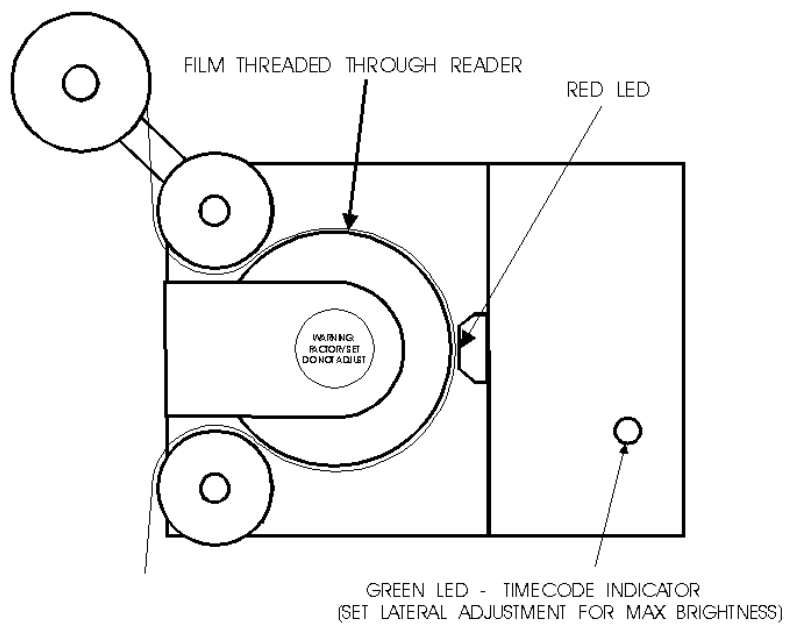

FIGURE 5
- **Threading Timecode Reader:** Refer to Figure 5. Make the same size loops through the projector as you did when checking the offset number.